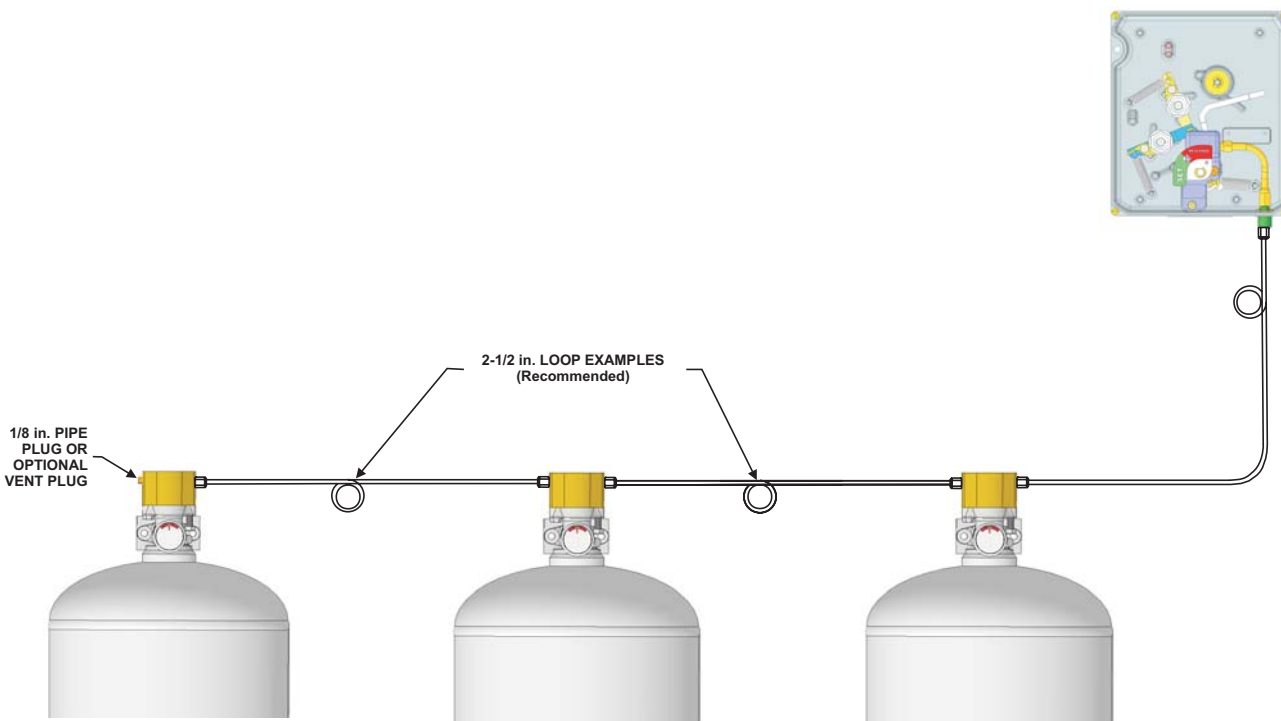

Figure 4-12. Example of Copper Tubing Loop Method
8. Install 1/8-inch NPT (M) x 1/4 copper tubing adapters. Compression type adapters are permissible.
9. Measure and install the 1/4 O.D. x 0.031 wall thickness copper tubing. A 2-1/2 inch (64 mm) loop between each cylinder and on the inlet tubing is recommended, but not required. See Figure 4-12. Ensure that each connection is secure.